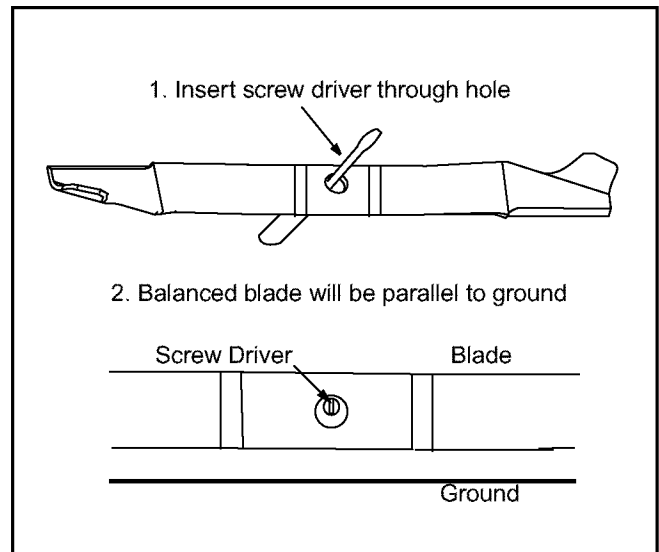

Figure 14
- Test the blade by balancing it on a round shaft screwdriver or a blade balancer as shown in Figure 14.